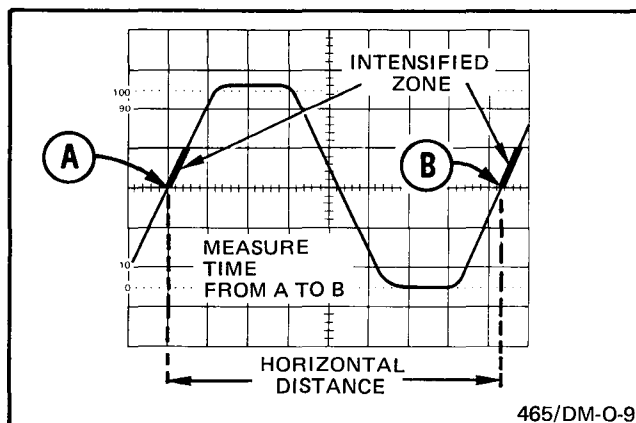

Fig. 2-14. Time duration between points on a waveform.
1. Set the A SEC/DIV switch and the horizontal POSITION control to locate both time measurement points within the graticule area (see Fig. 2-14).
4. Use the DELAY TIME POSITION (DTP) control to move the left edge of the intensified zone to just touch the first time measurement point (see Fig. 2-14, point A). Note the number of divisions between the start of the sweep and the start of the intensified zone.
5. Use the DTP control to move the left edge of the intensified zone to just touch the second time measurement point (see Fig. 2-14, point B). Note the number of divisions between the start of the sweep and the start of the intensified zone. Also note the number of divisions between point A and point B.